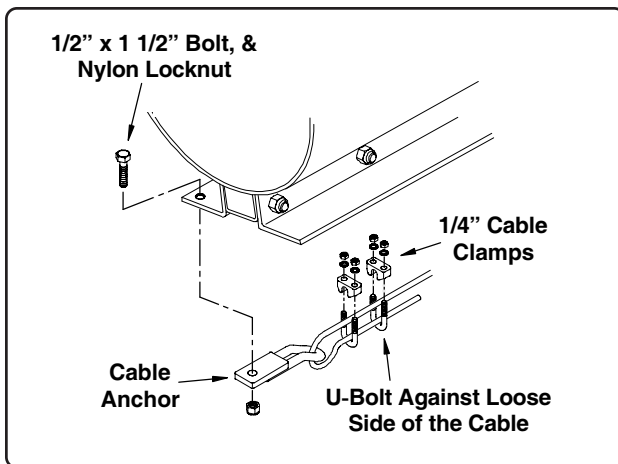

Fig. 36
1. Install the winch cable anchor onto the lower portion of the left-side track (the mounting hole is predrilled into the track, See Fig. 36 below). Secure cable anchor to the track using one 1 1/2" bolt and nylon locknut.